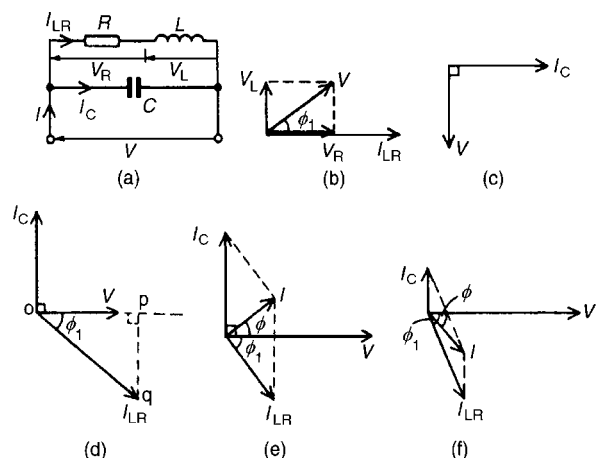

Figure 16.5
In the two branch circuit containing capacitance C in parallel with inductance L and resistance R in series (such as a coil) shown in Fig. 16.5(a), the phasor diagram for the LR branch alone is shown in Fig. 16.5(b) and the phasor diagram for the C branch is shown alone in Fig. 16.5(c). Rotating each and superimposing on one another gives the complete phasor diagram shown in Fig. 16.5(d)
The current I_{LR} of Fig. 16.5(d) may be resolved into horizontal and vertical components. The horizontal component, shown as op is $I_{LR} \cos \phi_1$ and the vertical
- $I_C > I_{LR} \sin \phi_1$ (giving a supply current I leading V by angle ϕ —as shown in Fig. 16.5(e))
- $I_{LR} \sin \phi > I_C$ (giving I lagging V by angle ϕ —as shown in Fig. 16.5(f))
There are two methods of finding the phasor sum of currents I_{LR} and I_C in Fig. 16.5(e) and (f). These are: (i) by a scaled phasor diagram, or (ii) by resolving each current into their ‘in-phase’ (i.e. horizontal) and ‘quadrature’ (i.e. vertical) components, as demonstrated in problems 6 and 7. With reference to the phasor diagrams of Fig. 16.5: